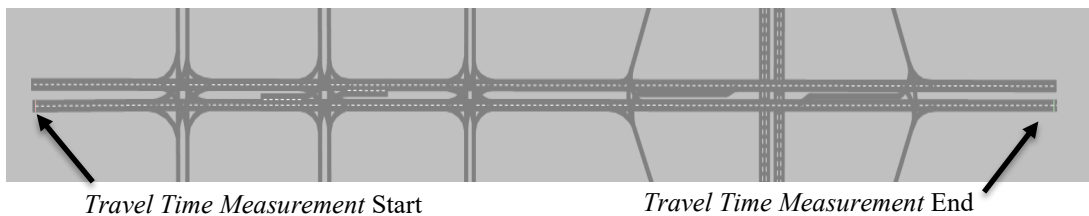

Figure 3: Buzz Blvd EB Travel Time Start and End Points
- step ii. Right-click on the EB *link* just downstream of the *Vehicle Input*, Figure 3.
- step iii. Right-click on Buzz Blvd by the EB exit, Figure 3.